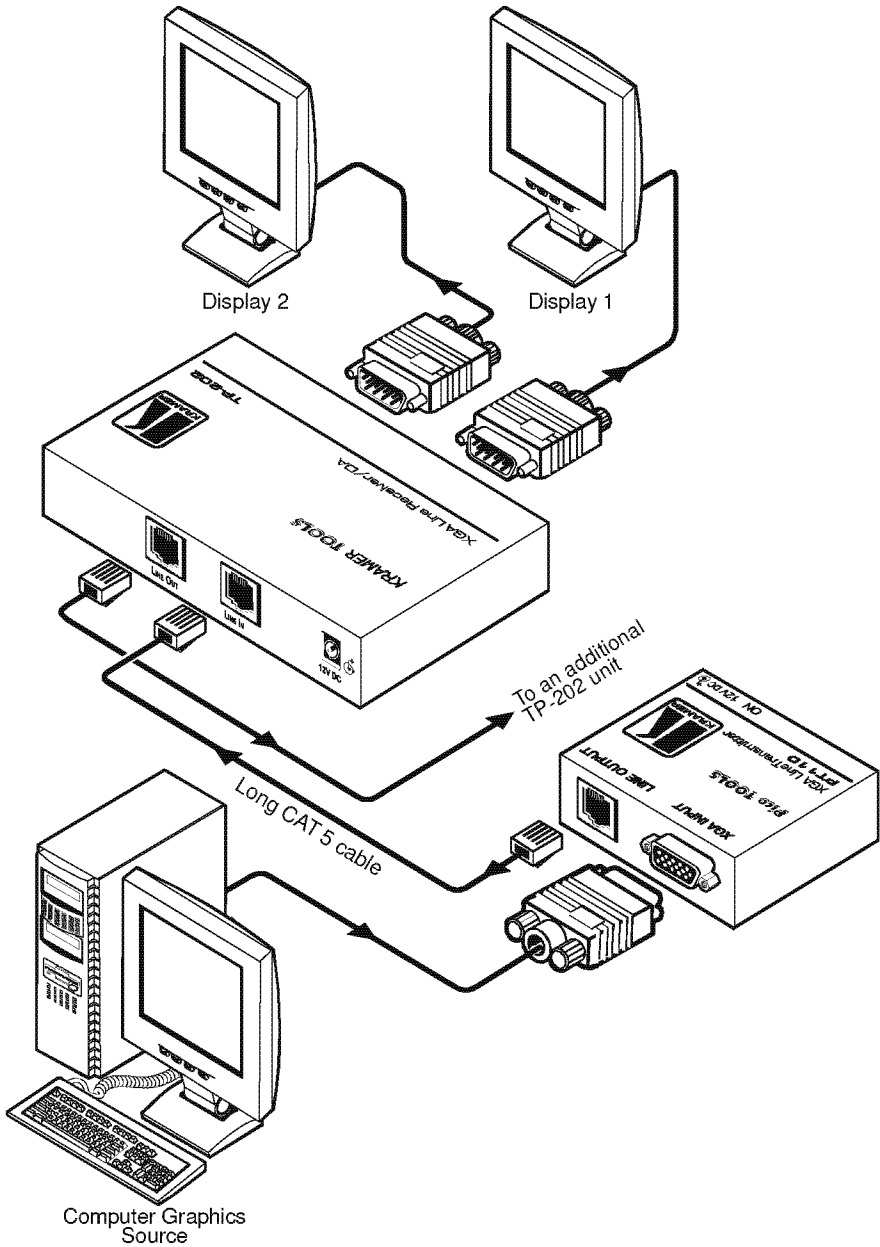

Figure 3: Connecting the TP-202
¹ For example, the PT-110, as Figure 3 illustrates
To connect the **TP-202**, as the example in Figure 3 illustrates, do the following:
9. Connect the 12V DC power adapter to the power socket and connect the adapter to the mains electricity (not shown in Figure 3).